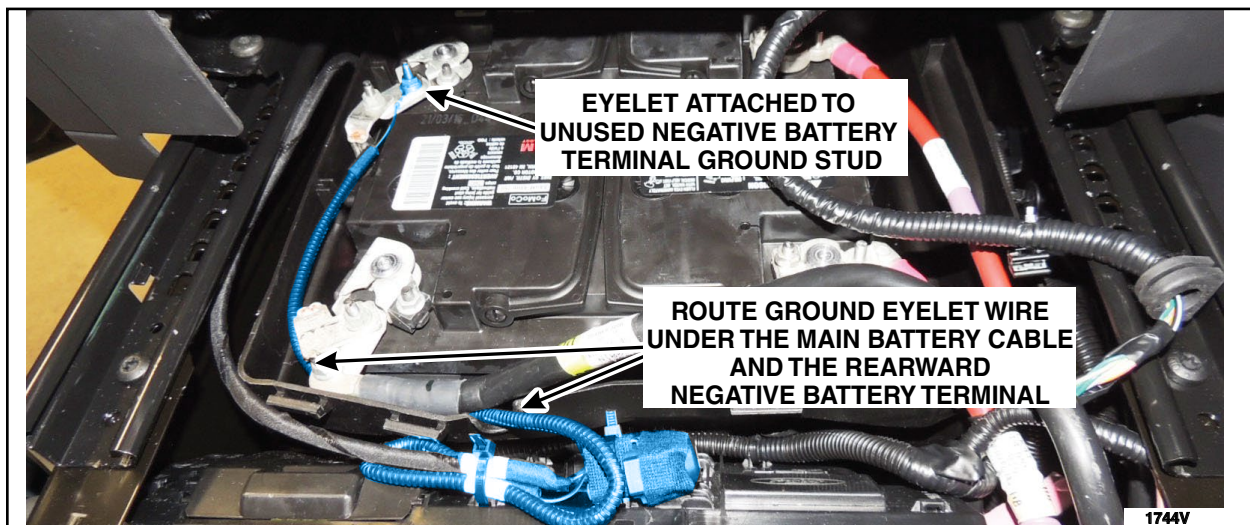

FIGURE 25
4. Route the ground eyelet wire under the main battery ground cable where it enters the battery box and under the rearward negative battery terminal and place the ground eyelet on the unused forward negative battery terminal ground stud on the front battery. See Figure 25